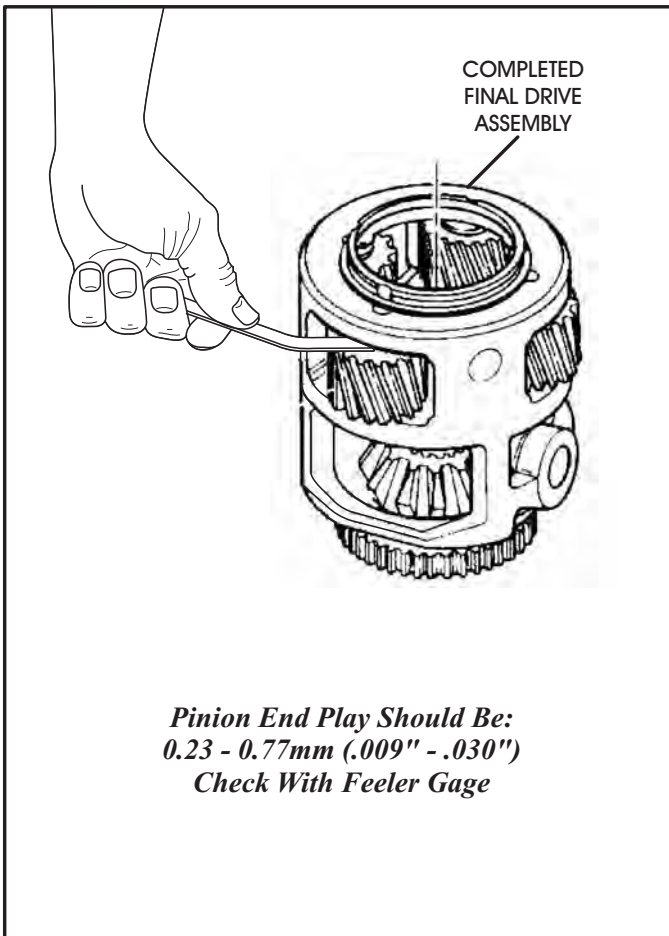

Figure 87
21. Check final drive pinion gears for the proper end play, as shown in Figure 87, and set the completed final drive aside for final assembly.